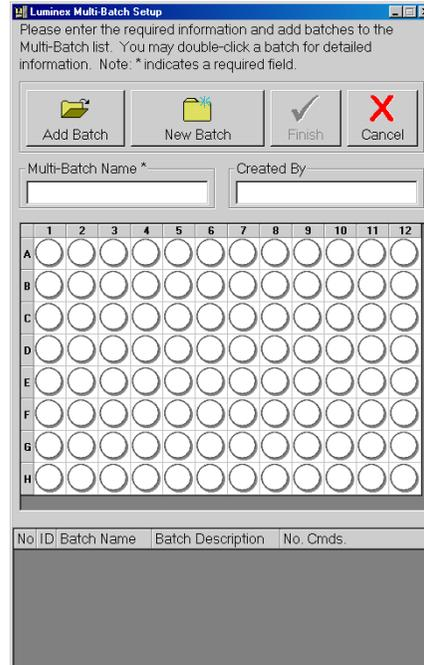

Figure 30 Luminex Multi-Batch Setup Dialog Box
1. Click **New Multi-Batch**. The Luminex Multi-Batch Setup dialog box opens, shown in Figure 30.
2. In the **Luminex Multi-Batch** dialog box, click **Add Batch** to add an existing batch to the multi-batch. See Figure 30.